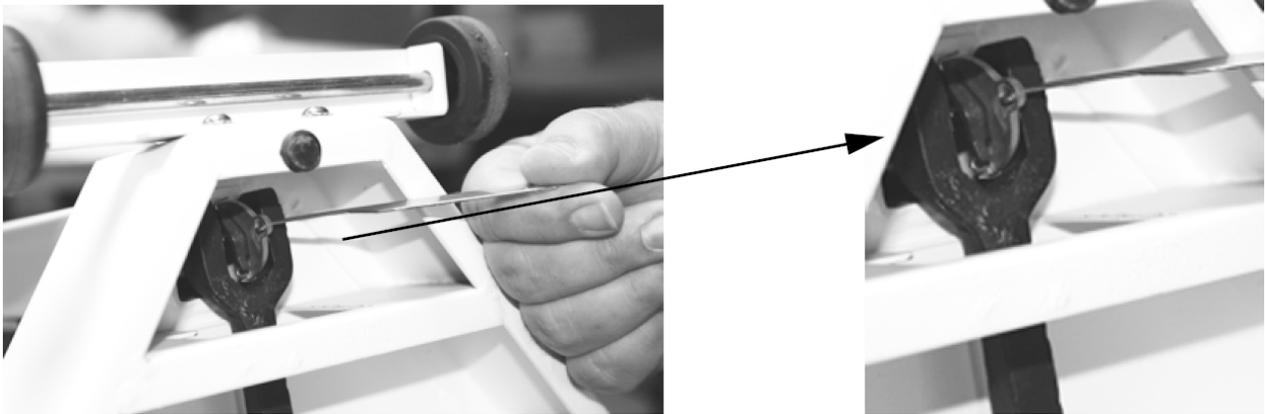

Figure 5. Connect the Steel Rod to the Scale Base
6. Insert the wrench (included) into the small hole in front of the steel rod and pull the rod hook with the wrench to connect it to the scale base as shown in Figure 5. The steel rod is located inside the scale pillar. Once the pillar is attached to the scale base, the steel rod must be attached to the bottom of the scale.
Beam does not move at all during weighing	<ul style="list-style-type: none"> ▪ Weights are set higher than the person's actual weight. Reset the weights to a lower weight. ▪ Make sure steel rod is properly connected and aligned as in Figure 5.